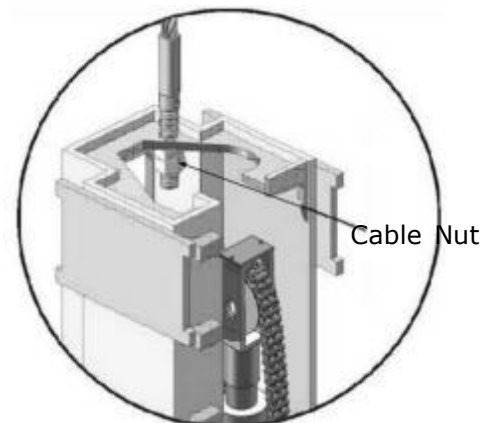

Fig. 37
1. Adjustment of synchronous cable (See Fig.37)